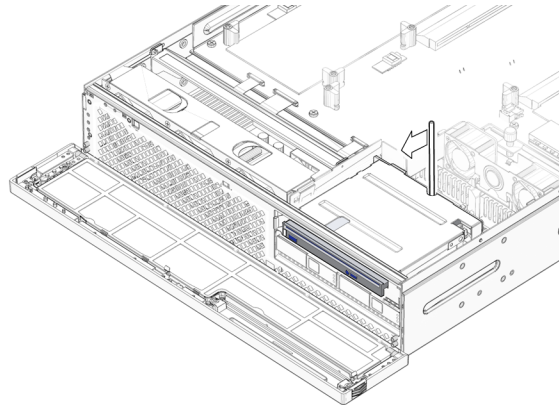

FIGURE 3-7 Inserting the Probe at the Back of the Optical Media Drive
3. Insert a small plastic probe into the opening at the back of the optical media drive (FIGURE 3-7).